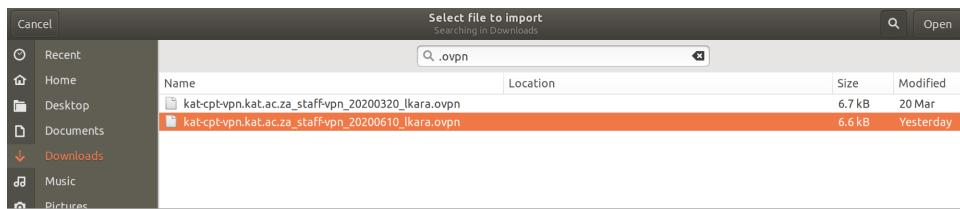

Figure B.3: CAM GUI approved SB
- Select ‘Import from file...’ (see as shown in **Figure B.3**), you will be directed to your ‘Home’ folders so that you can choose the correct file to import